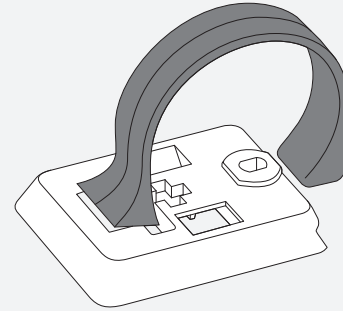

Figure 22. Clasp in the Back of Computer Base.
2. Insert the correct clasp into the computer base (Figure 22).